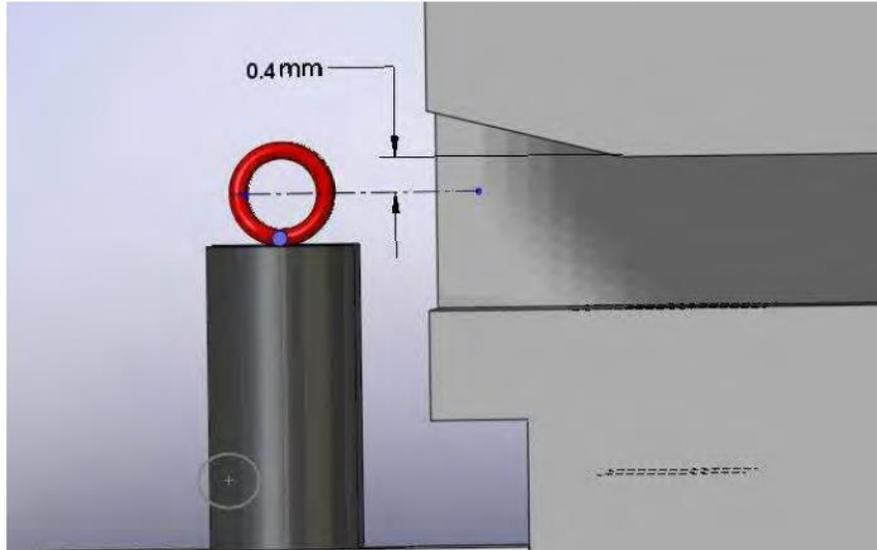

Figure 2-7. Filament alignment
16. Visually verify ceramic is tight against the bottom and left-side ribs. Ensure that the filament is positioned in the slot of the ion source as shown in Figure 2-7.